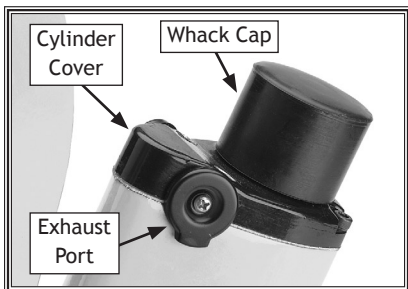

Figure 8. Whack cap and cylinder cover.
- Use a flat head screwdriver to pry off the whack cap (see Figure 8).